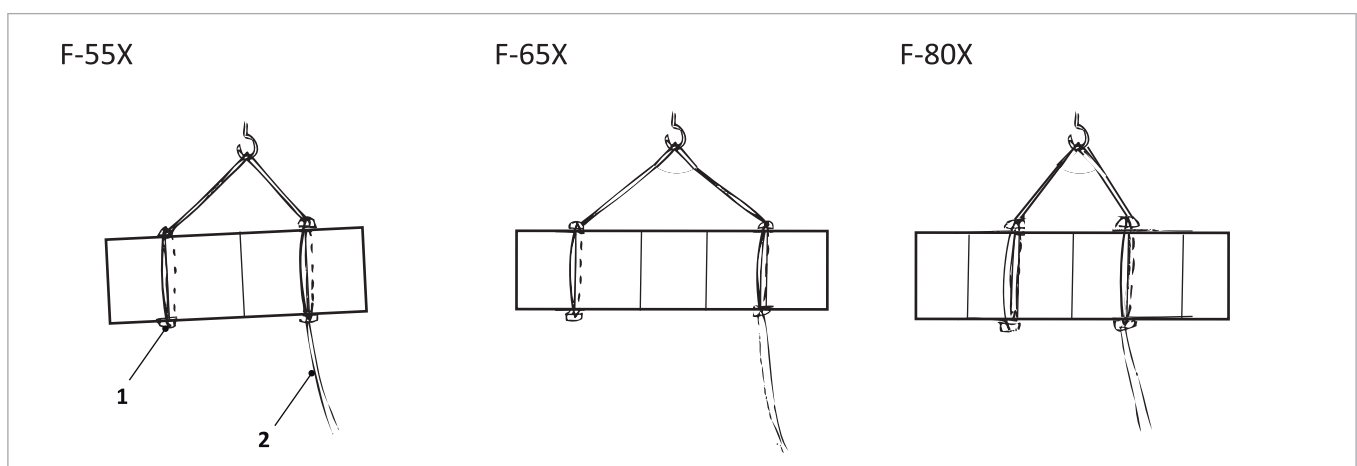

Fig. 2: SolvisFera – position of grips and tethers
- Fasten grips and tethers to the collector as shown in → fig. 2